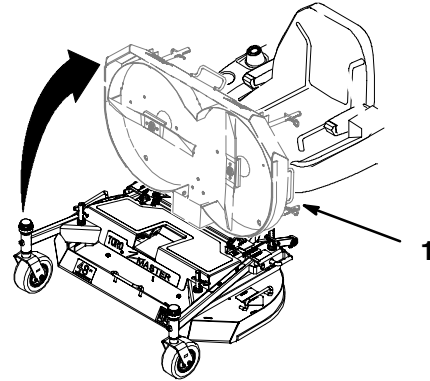

Figure 20
5. Standing in front of the mower, lift up and push rearward on front to raise mower (Fig. 20).
2. Standing in front of the mower, pull front deck handle forward and lower mower (Fig. 20).